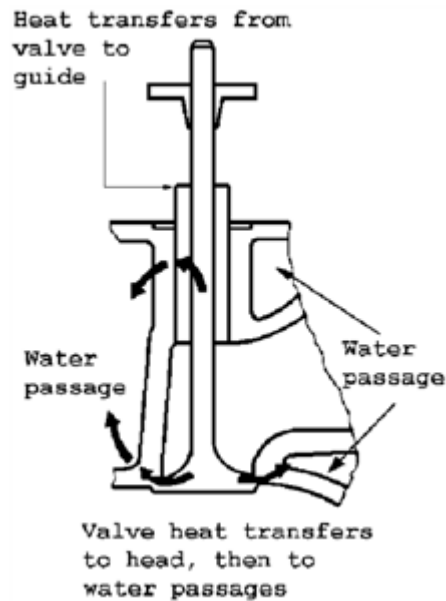

Fig.24
- During engine operation the valves are cooled as shown in Fig. 24 next page. When the valve is closed, heat in the valve head is transferred to the cylinder head, then to the water passage as shown.